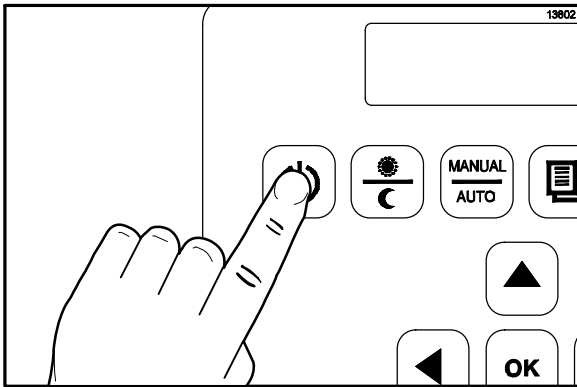

Figure 24
2. Heat up the grill by pressing the  key for 3 - 5 seconds. "AM TOO COOL" and "AM FOLDED EGGS - CLAM" will be displayed on the control screen. (See Figure 24.)